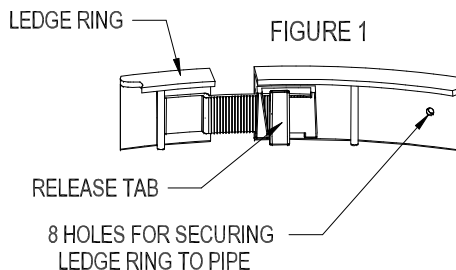

FIGURE 1
1. FULLY COLLAPSE LEDGE RING BY RELEASING TAB ON RATCHET CATCH (AS IN FIGURE 1).